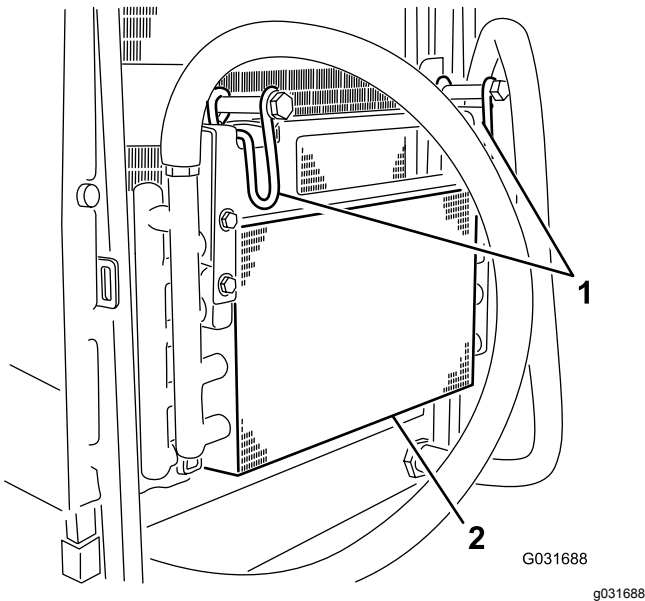

Figure 49
5. Pivot the latches inward to release the oil cooler (Figure 49).